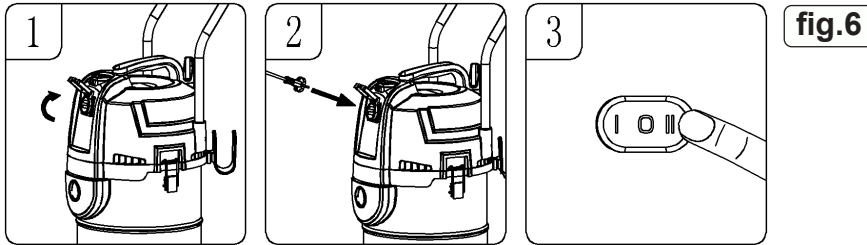

fig.6
5.5. SWITCH AND AUXILIARY SOCKET USE (fig.6)